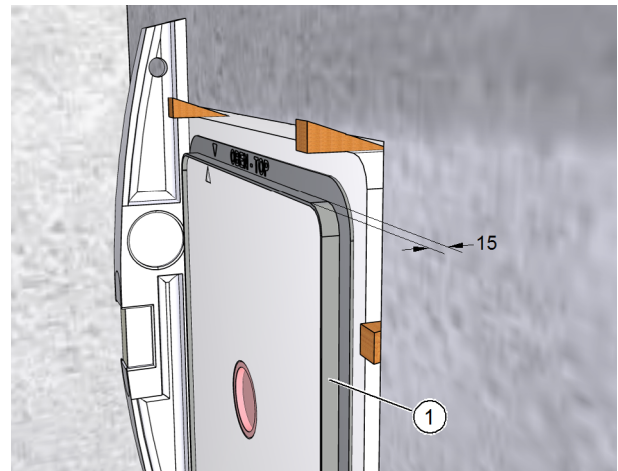

Fig. 13: Depth of plastering trim 15 mm
The plastering trim is 15 mm deep (see Fig. 13).
- ▶ If the interior wall is not perpendicular or flat, align the front surface of the plastering trim (item 1 in Fig. 13) parallel to a plaster stop bead running vertically.